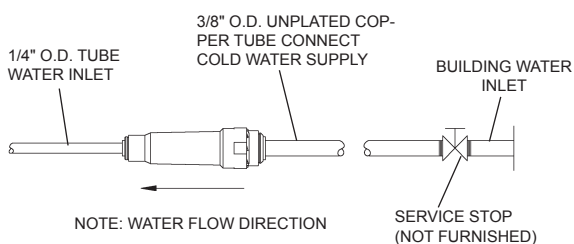

FIG. 1
8. Connect drain and water supply lines to the freeze resistant fountain. Refer to Figure's 3 thru 9 for component positions. Inline strainer must be used on the inlet water line. See Fig. 1.